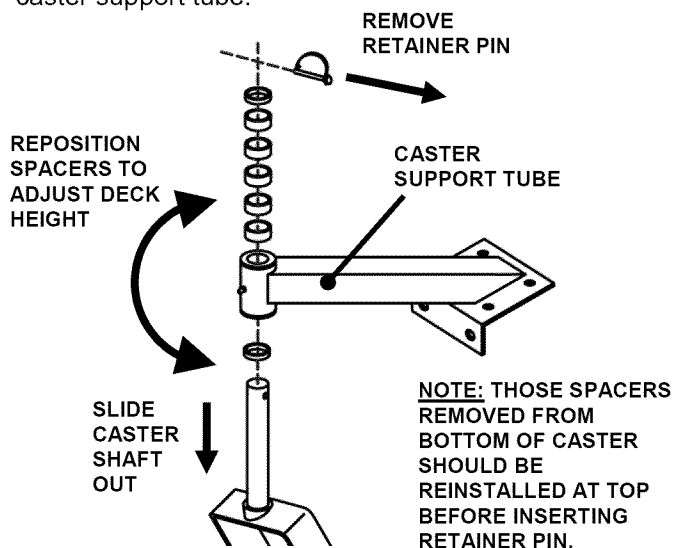

FIGURE 6.8
1. **FRONT CASTER ADJUSTMENT:** Each Caster Wheel Assembly has five (5) 1/2" and two (2) 1/4" spacers positioned on the caster shaft. By removing retainer pin, and repositioning spacers above or below Caster Support Tube, the spacers will raise or lower cutting height in 1/2" increments. See Figure 6.8. **NOTE:** For clearance purposes, one 1/4" spacer must remain below caster support tube.